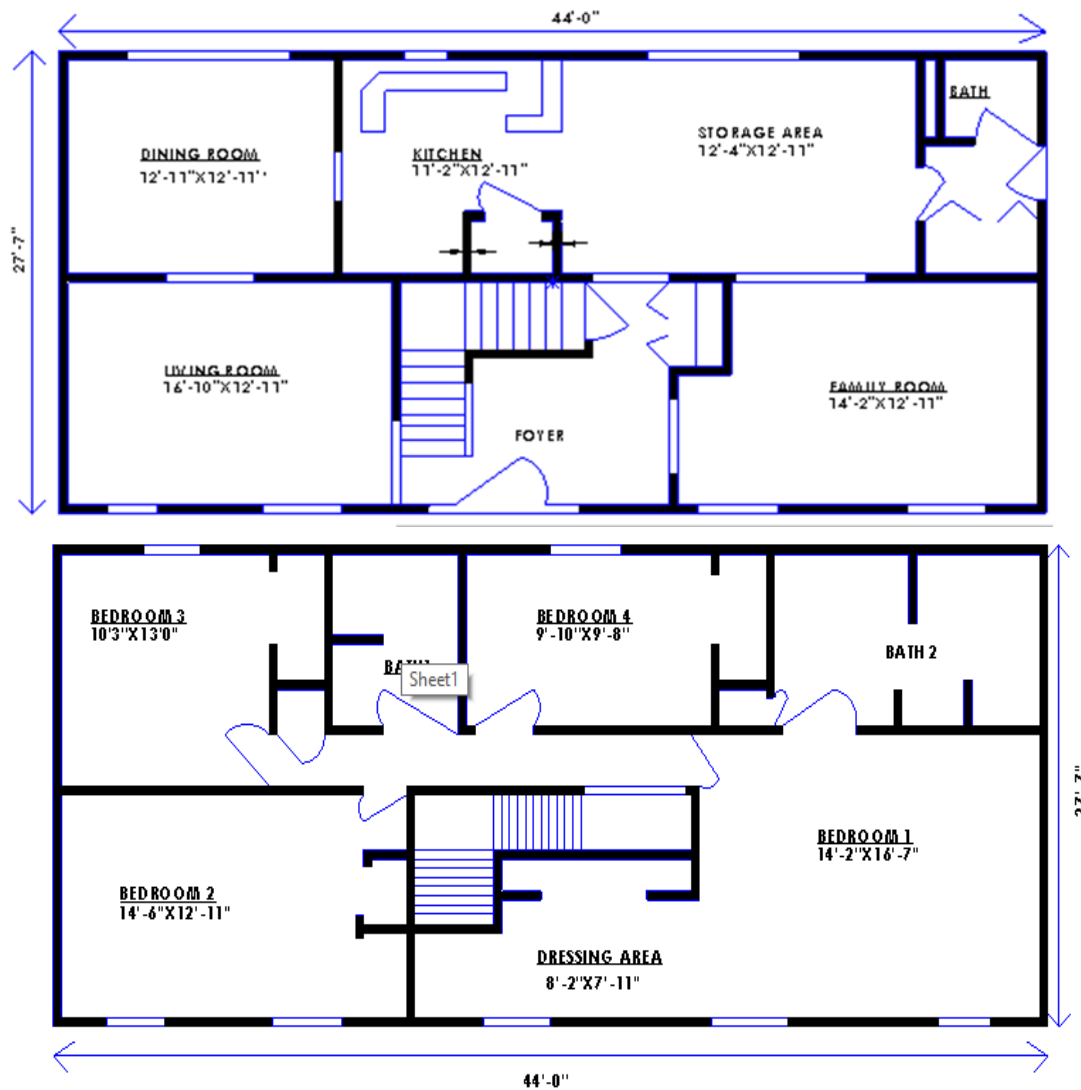

Figure 11.2: Details of Plan of Two-storey building
11.2 Draw the plan of two-storey building as shown in Figure 11.2. (Scale 1feet = 5mm)